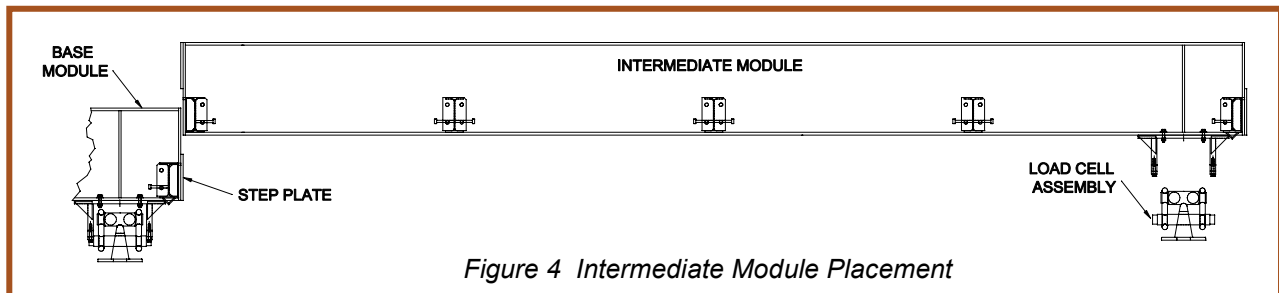

Figure 4 Intermediate Module Placement
3. **Place the intermediate module onto the step plate** of the base module, and also onto the load cell assembly. See Figure 4.